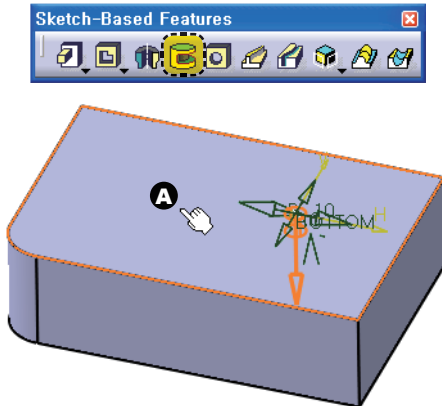

Fig 6-13 Plane for Hole
3. Select the face **A** shown in Fig 6-13.